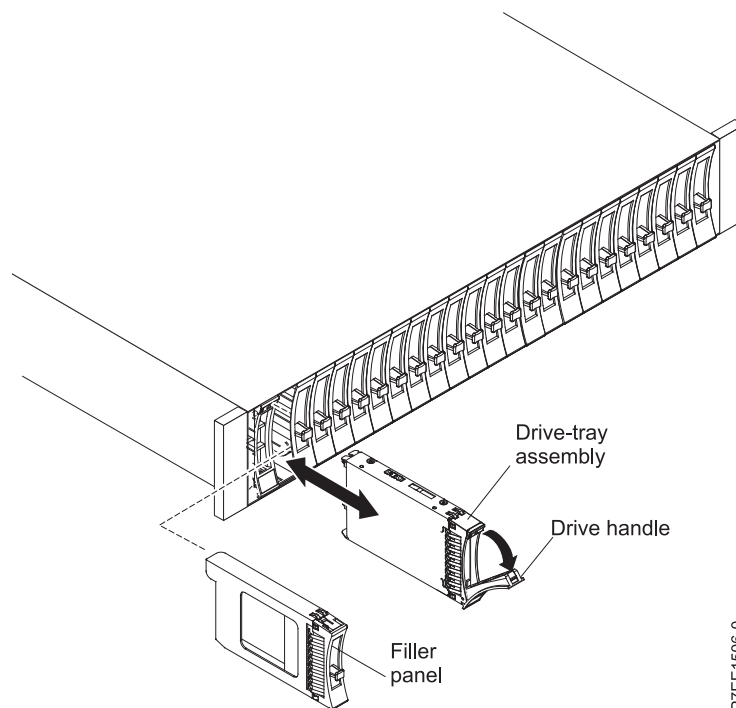

Figure 59. Removing a drive from the 5147-024 or ESLS storage enclosure
4. Grasp the front of the drive and pull it out from the slot, ensuring that you support the bottom of the drive, as shown in Figure 59.